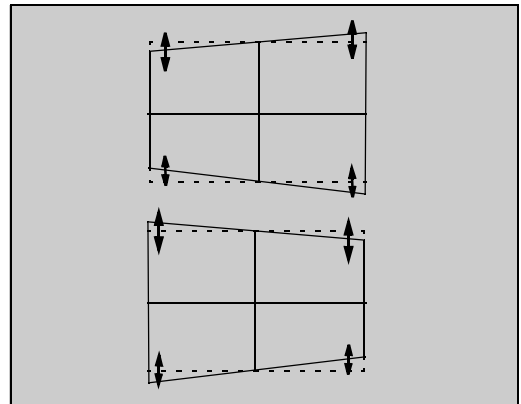

Figure 48. **KEY mode adjustment**
17. Adjust by pressing CH up-down (see figure 48)
34. Adjust KEY (see figure 48)